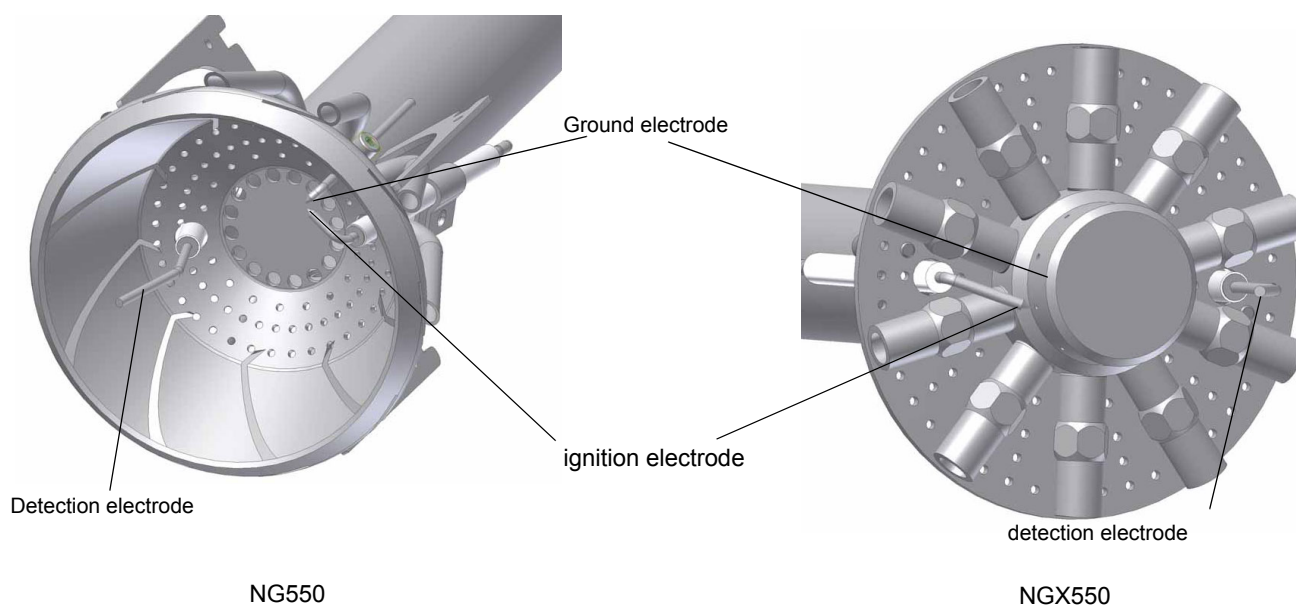
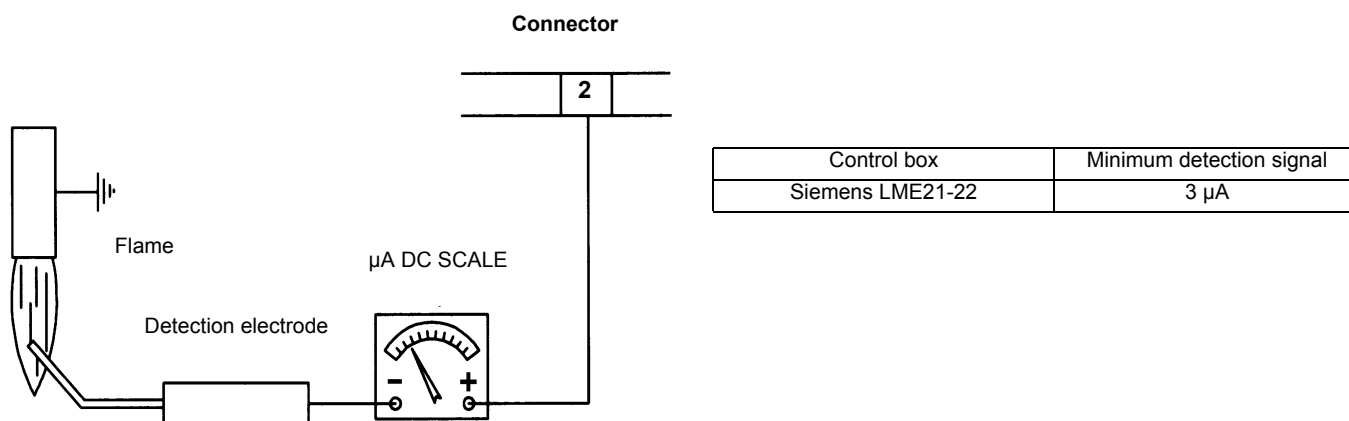

Fig. 50
Fig. 51
- Check the ignition and detection electrodes, clean and adjust if necessary (see Fig. 50). In case of doubt, check the detection current according to the schemes in Fig. 51.
ATTENTION: avoid the ignition and detection electrodes to contact metallic parts (blast tube, head, etc.), otherwise the boiler's operation would be compromised. Check the electrodes position after any intervention on the combustion head. The gap between the ignition electrode and the ground is $4 \pm 5 \text{ mm}$ (see Fig. 50).
If the burner locks out, execute the following inspections. To measure the detection signals refer to the diagrams in Fig. 51. If the signal is less than the value shown, check the position of the detection electrode, the electrical contacts and if necessary replace the detection electrode (see "Electrodes position setting" on page 35).